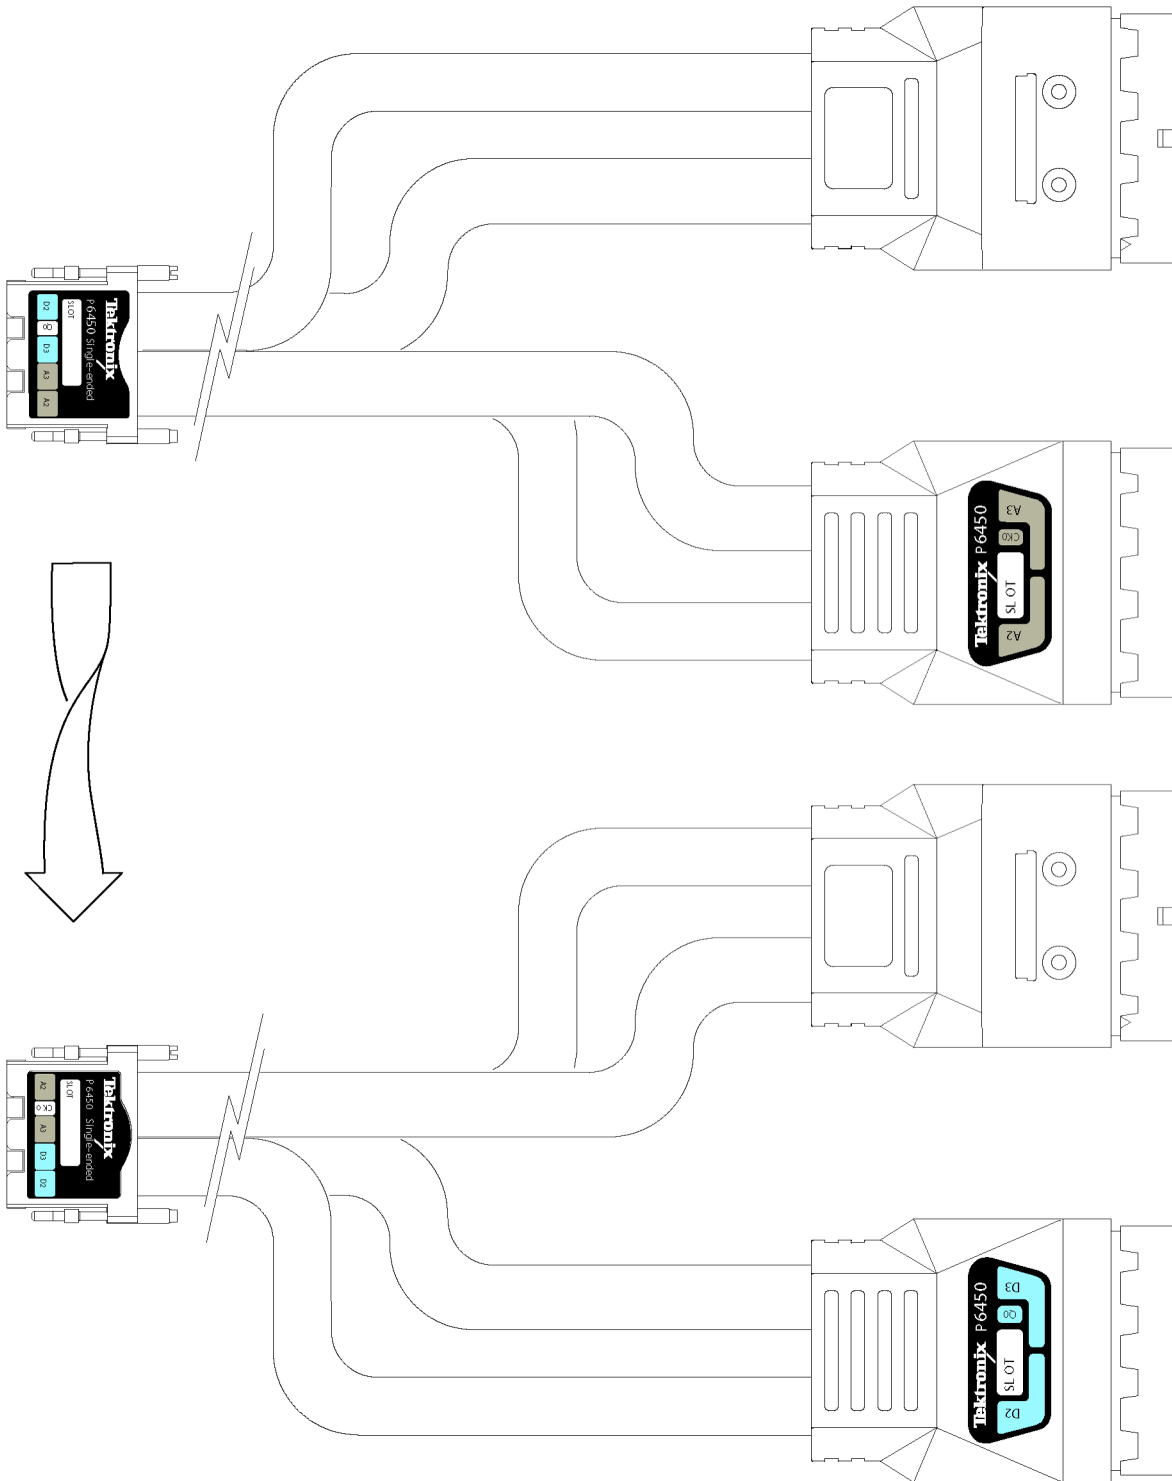

Figure 2: Attaching labels to the P6450 probe
The following table lists the probe section and label color combinations. (See Table 1.) Refer to the table and to the following figure when you attach the probe labels. (See Figure 2 on page 4.)
1. Identify the module end of the probe cable. (See Figure 2 on page 4.)
3. Attach the matching colored labels to the probe head on the other end of the probe cable. (See Figure 2 on page 4.)